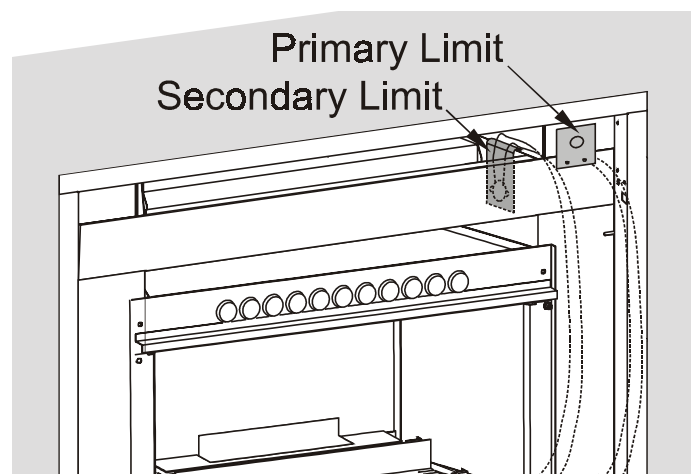

Figure 20. Installing the secondary spill switch, also see figure 24c.
9. Reconnect the primary limit switch as shown in figure 24c. Install the secondary spill switch in its location on the right side of the insert, centred in its location as shown in figure 20. Drop the wires between the insert and the shell and connect the spill switch to the thermocouple-gas valve circuit as shown in figure 24c.